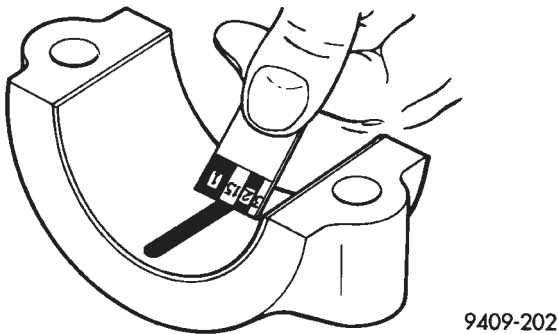

Fig. 2 Clearance Measurement
- (3) Remove the bearing cap and compare the width of the flattened Plastigage (Fig. 2) with the metric scale provided on the package. Locate the band closest to the same width. This band shows the amount of clearance in thousandths of a millimeter. Differences in readings between the ends indicate the amount of taper present. Record all readings taken. Refer to Engine Specifications. **Plastigage generally is accompanied by two scales. One scale is in inches, the other is a metric scale.**
- (4) Assemble the rod cap with Plastigage in place. Tighten the rod cap to the specified torque. **Do not rotate the crankshaft while assembling the cap or the Plastigage may be smeared, giving inaccurate results.**
- (5) Remove the bearing cap and compare the width of the flattened Plastigage (Fig. 2) with the scale provided on the package. Locate the band closest to the same width. This band indicates the amount of oil clearance. Differences in readings between the ends indicate the amount of taper present. Record all readings taken. Refer to Engine Specifications. **Plastigage generally is accompanied by two scales. One scale is in inches, the other is a metric scale. If the bearing clearance exceeds 0.076 mm (0.003 in.) replace bearing.**